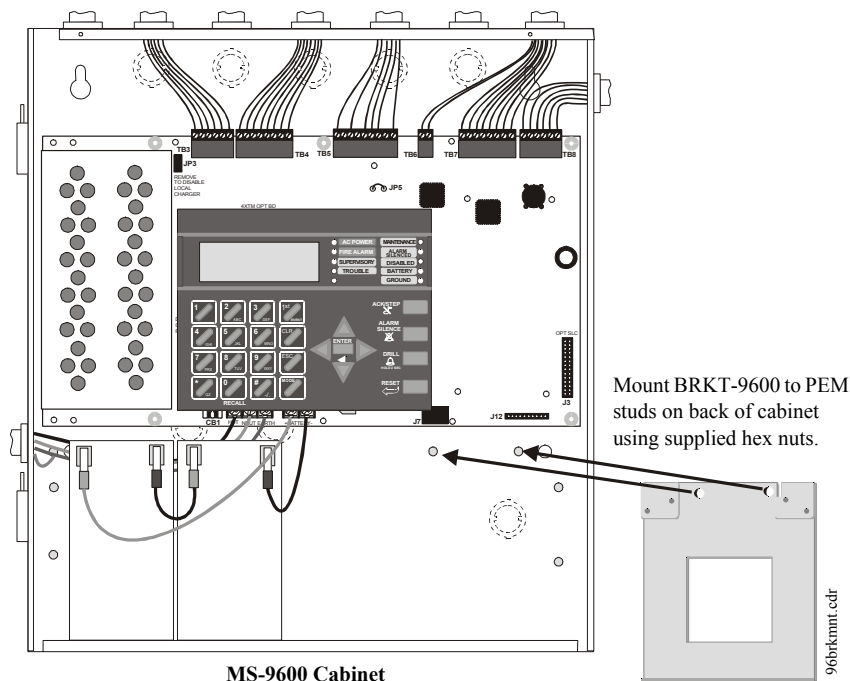

Figure 2.19 BRKT-9600 Bracket Installation
1. Install the two supplied standoffs in location (A) as indicated in Step 1 of the following illustration
5. Install a maximum of two 12 Amp Hour batteries with the orientation illustrated in Figure 2.19. Larger batteries require a separate UL listed battery box